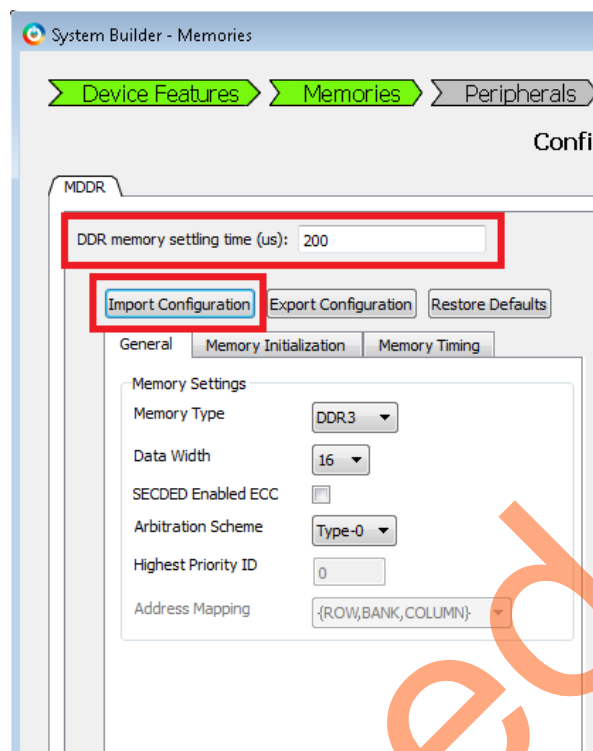

Figure 5. System Builder Configurator – Memory Page
8. Click **Next**, the System Builder – **Memory** page is displayed, as shown in Figure 5. You will be using the DDR3 external memory models for the purpose of this tutorial. Set the memory settling time to 200 us.
- Click **Import Configuration**, as shown in Figure 5.